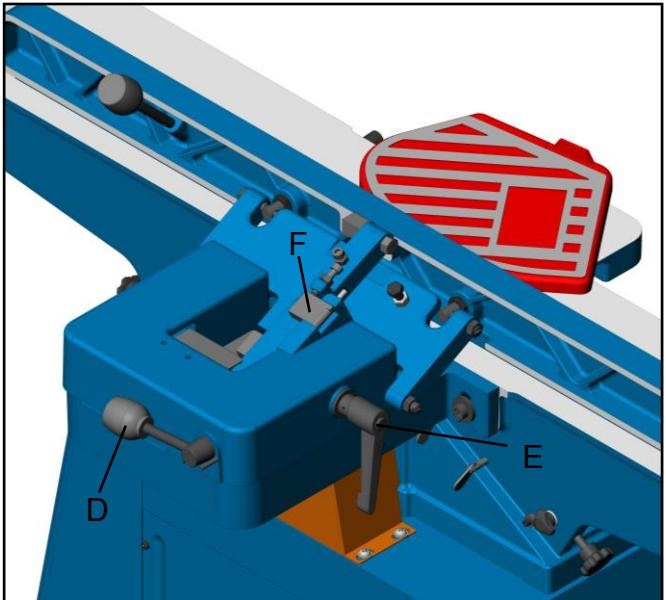

Fig. 8
1. Loosen locking handle (E), Fig. 8
2. Flip back the stop block (F).
3. Adjust the fence to the desired angle and tighten locking handle (E) to secure fence.
NOTE: The lock knob (D, Fig. 8) can be adjusted to a more convenient position by loosening the nuts on its opposite end, turning the handle to the proper position, and retightening the nuts.